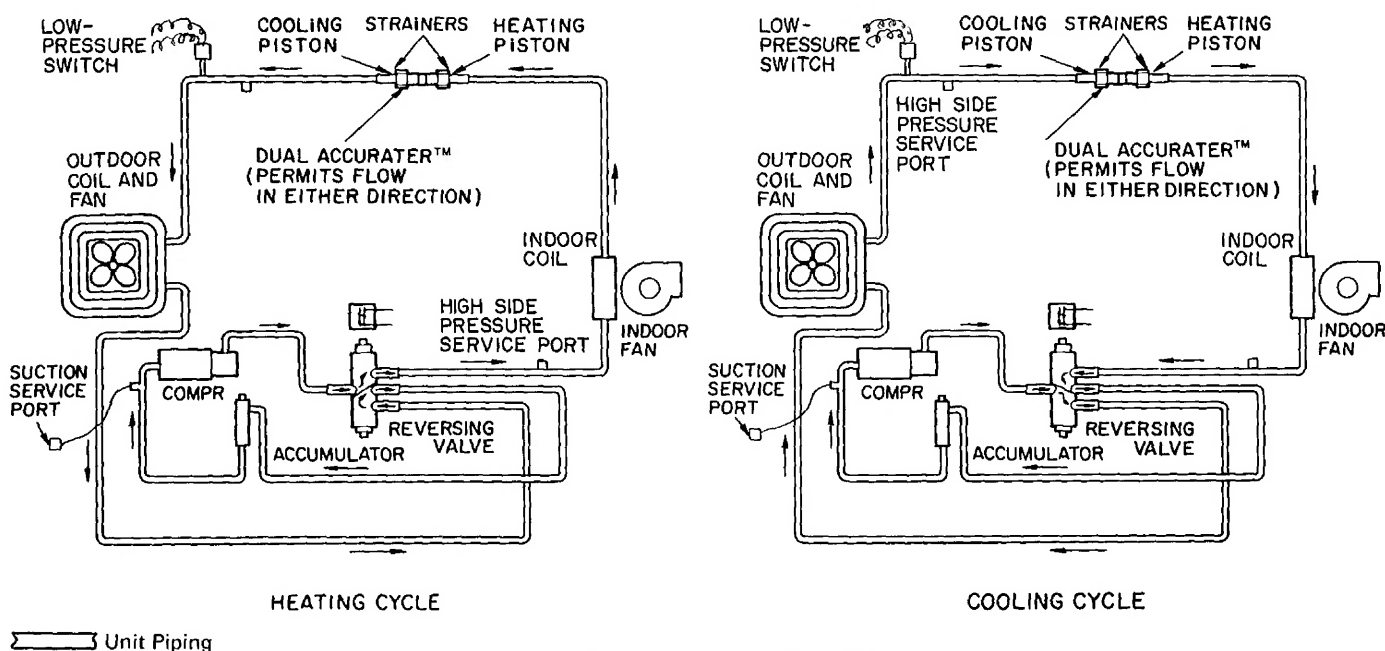

Fig. 5 — 50QT Refrigerant Flow Diagrams
HEAT PUMP CIRCUITS shown in Fig. 5 are refrigerant flow diagrams for heating and cooling cycles.
triple-evacuate system to 5000 microns (29.7 in. vacuum) before recharging. Service port connections are provided on unit suction and discharge lines for evacuation and charging. (See Fig. 5 for service port location.) Dial-a-charge charging cylinder is an accurate device used to recharge systems by weight. These cylinders are available at refrigeration supply firms.
2. Measure suction pressure by attaching a gage to unit suction service port. (See Fig. 5 for correct service port location.)